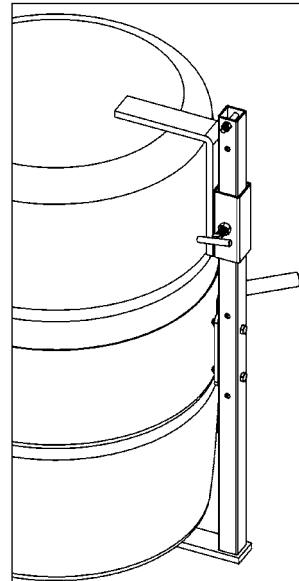

Figure 2.1
- The **Bracket Assembly** (Kit # 4556M-P) is **required** to handle a plastic drum without a top rim (see figure 2.1). It is also recommended to more securely handle a fiber drum. You can use the Bracket Assembly with a 55-gallon plastic, steel or fiber drum. The brace at top and bottom of the drum prevent it from slipping lengthways through the drum holder. It adjusts for a drum 31" to 39" (79 to 99 cm) tall.